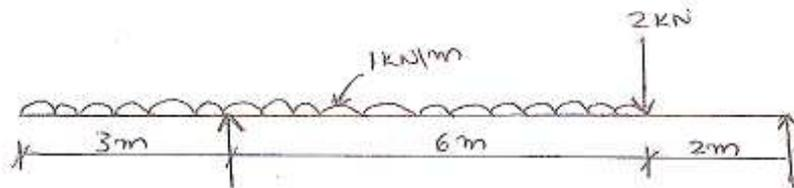

Figure 2
2. Sketch the shear force and bending moment diagrams showing the salient values for the loaded beam shown in the figure 2 below. [16]